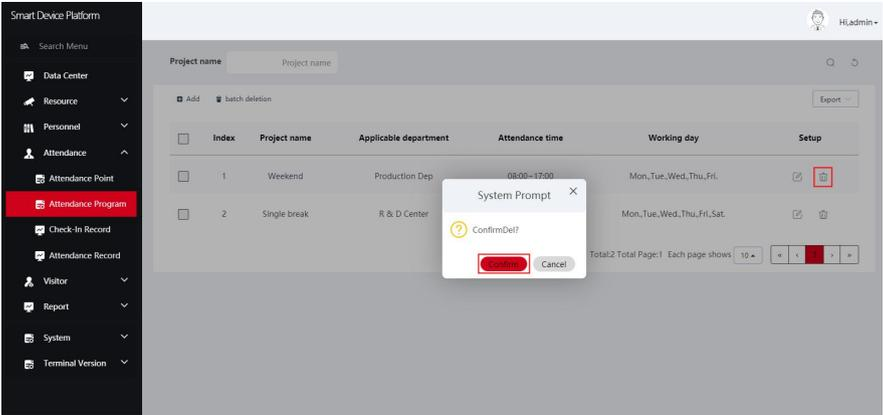

Figure 5-97
Step 2: Click "  → Confirm" to complete the solution to be deleted, as shown in Figure 5-97 below.